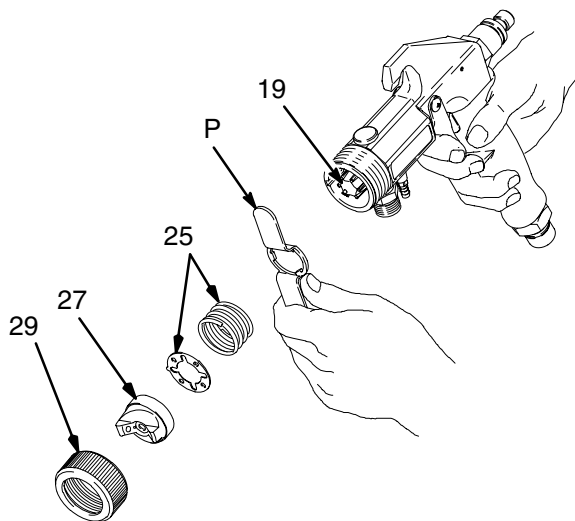
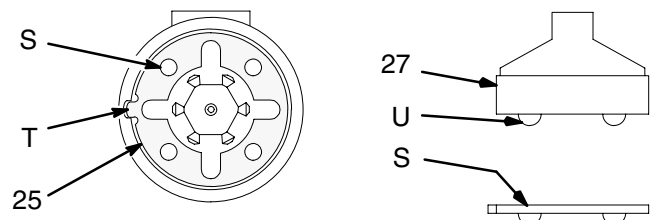

Fig. 17
Fig. 19
2. Remove air cap retaining ring (29), air cap (27), spring and detent plate (25). See Fig. 17.
3. Trigger gun while removing fluid nozzle (19) with nozzle wrench (P), provided. See Fig. 17.
4. Remove gun fitting (22) from back of gun. Remove needle for cleaning.
7. Trigger gun while installing fluid nozzle (19) with nozzle wrench (P). See Fig. 17.
8. Install spring (25) into front of gun.
9. Install detent plate (25) into gun housing with open sockets (S) facing up; align detent plate tab (T) with notch in gun housing. See Fig. 19.
10. Install air cap (27), aligning air cap balls (U) with detent plate sockets (S). See Fig. 19. Secure air cap with air cap retaining ring (29).